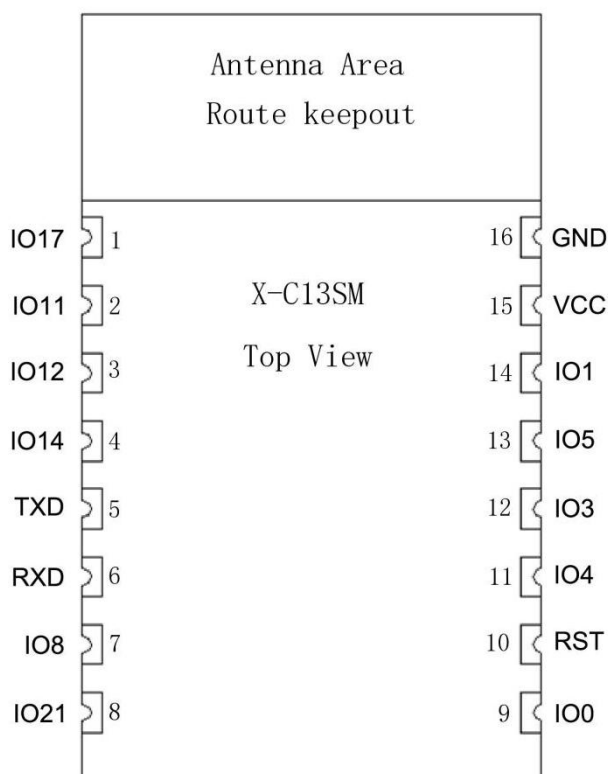

Figure 2. X-C13SM Pin Layout (Top View)
- X-C13SM comes with a on-board PCB antenna, please refer to Figure 2.